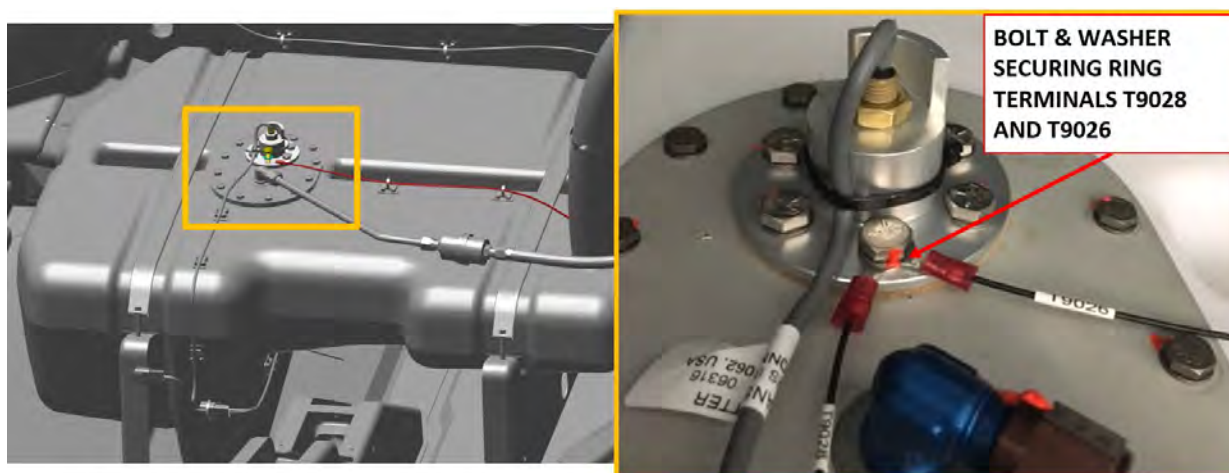

FIGURE 13-36
5. Remove electrical connections from Fuel Level Sensor. See Figure 13-36.
3. Secure the electrical connections to the Fuel Level Sensor Plate, Figure 13-36: